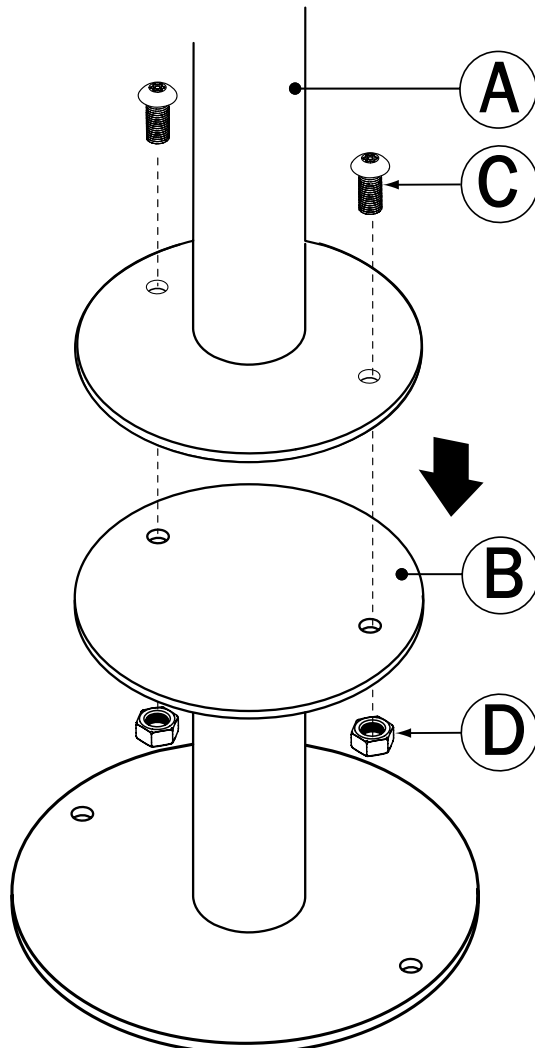

Figure 1.
2. Connect Footer(B) to Lower Post(A) using (2) Bolts(C) and (2) Lock Nuts(D). See Figure1.